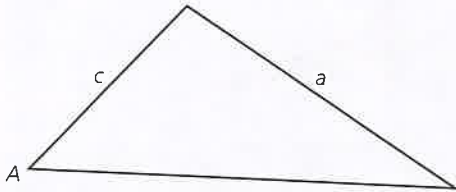

Figure 4.21 Two sides and one opposite angle are given
- two sides and an angle opposite to one of the two sides (see Figure 4.21).